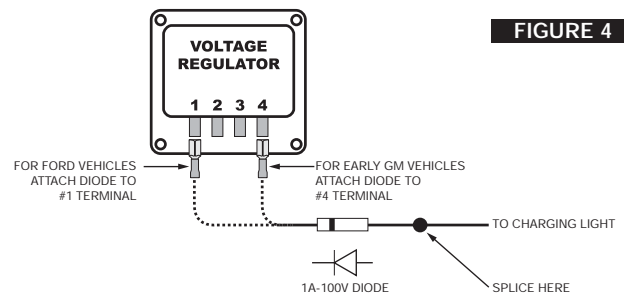

FIGURE 4
Early Ford and GM: To solve the run-on problem, a diode is supplied with the HYFIRE® 6A Ignition Control. By installing this diode in-line of the wire that goes to the charging indicator, the voltage is blocked from entering the HYFIRE® 6A Ignition Control. Figure 4 shows the proper diode installation for early Ford and GM vehicles.
**NOTE: Diodes are used to allow voltage to flow only one way. Make sure the diode is installed facing the proper direction, as shown in Figure 4.**